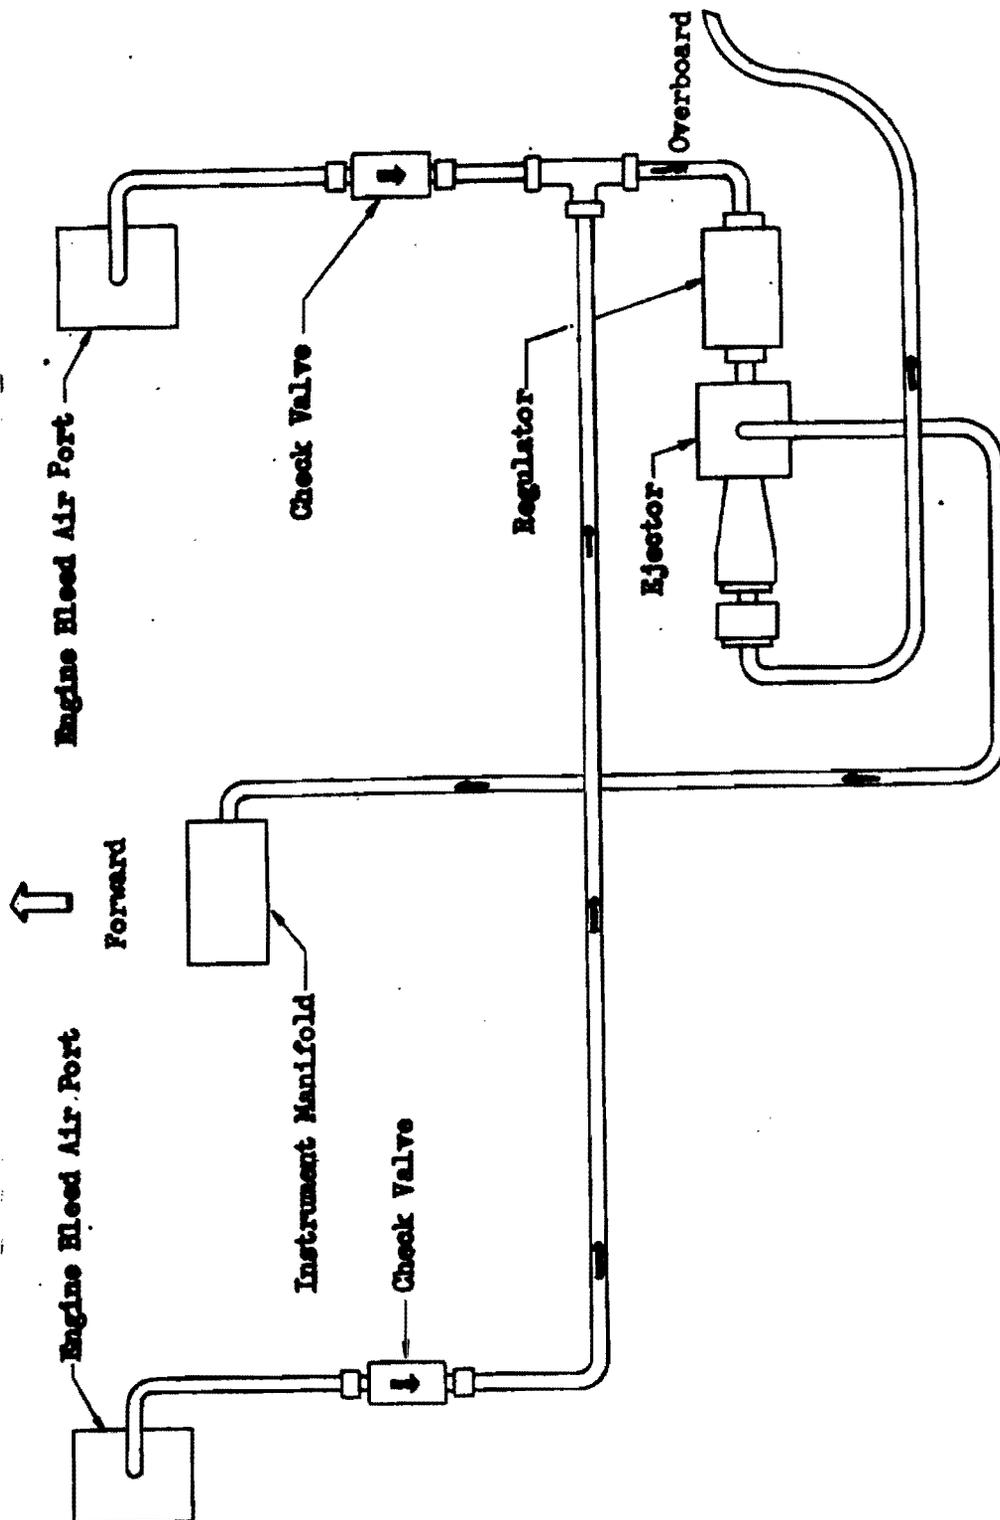

Figure 2 - Vacuum System Installation
The system also consists of a regulator, Bendix Model 38E59-6, Style A, and two (2) check valves (see Figure 2). Both the regulator and the airejector are installed in the right engine nacelle.